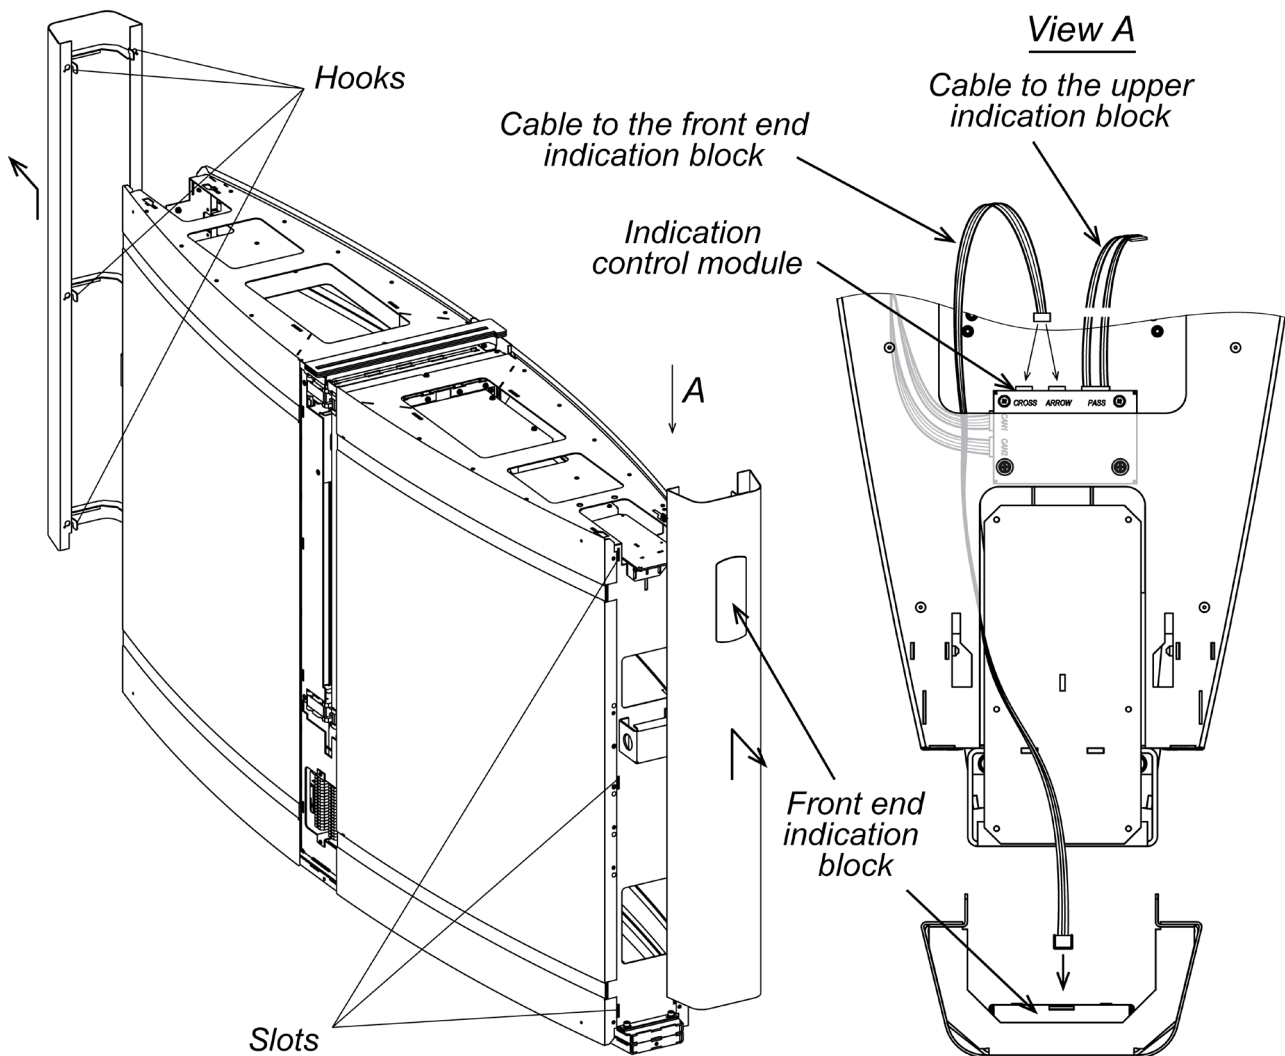

Figure 19. Dismantling of the front end panel
- Dismantle the front end panels (7) (see sect.8.7.1, Fig. 19). Be careful, do not damage the connection cable of the front end indication block (8)!
21. Unpack the sliding panels (1), filling glass (2), section glass covers (3), central inserts (4) and side panels (6) (boxes No.2, No.4).
- Install the front end panels (7) (see sect.8.7.1 , Fig. 19). The panel with the front end indication block (8) must be mounted on the side of the section with the indication control module, and the corresponding connection cable must connect the indication control module and the front end indication block (see Fig. 19). The connection cable connected to the **ARROW** connector of the indication control module will activate the white arrow on the front end indication block. The cable connected to the **CROSS** connector will activate the red cross.
- Mount the glass top covers (3) (see sect. 8.7.8, Fig. 26), the cover with the upper indication block (5) must be mounted on the side of the section with the indication control module, prior to that it is necessary to connect the appropriate connection cable from the indication control module to the upper indication block (see Fig. 19).
1. Slide the panel up along the front end side of the section in order to remove it from the hooks (it is allowed to use a large flat screwdriver inserted into the slot at the bottom of the panel as a lever), then carefully move it away from the section (see Fig. 19) for about 10 cm. Be careful, do not damage the connection cable!
Covers with the upper indication block must be installed on the side of the section with the indication control module, prior to this it is necessary to connect the appropriate connection cable from the indication control module to the upper indication block, see Fig. 19 and 26.